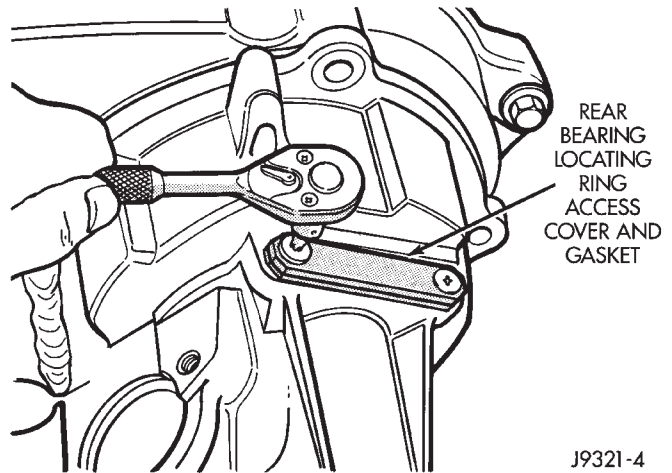

Fig. 26 Locating Ring Access Cover And Gasket Removal
(5) Remove rear bearing locating ring access cover screws, cover and gasket (Fig. 26).